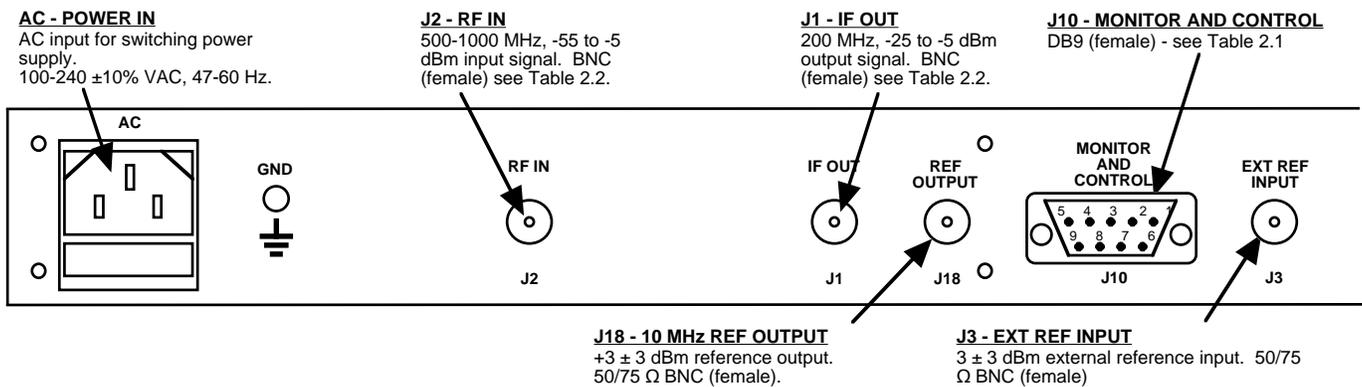

FIGURE 2.2 2016-10 Rear Panel I/Os
Figure 2.2 shows the input and output connectors on the rear panel.
1. Connect a -55 dBm to -5 dBm signal to RF IN, J2 (Figure 2.2)